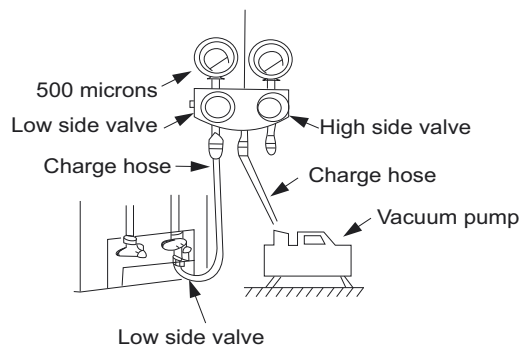

Fig. 18 — Manifold
3. Fully open the low side of manifold gage (see Fig. 18).